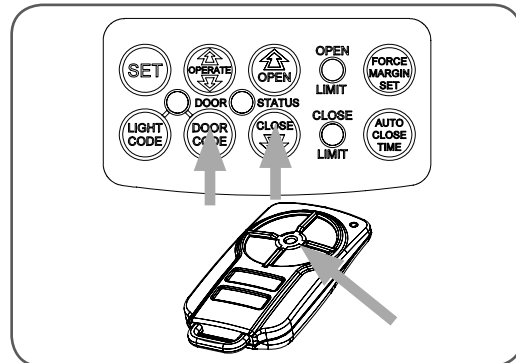

fig 22
- Press and hold both the DOOR CODE and CLOSE buttons (**Fig. 22**).
- Press one of the four buttons on the transmitter for two (2) seconds, pause for two (2) seconds, then press the same button again for two (2) seconds.